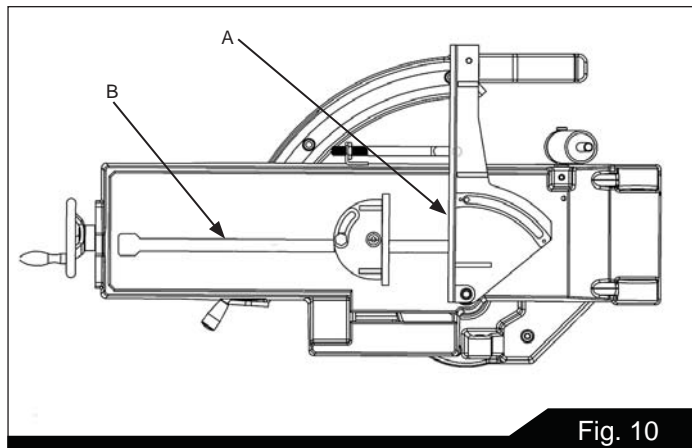

Fig. 10
The procedure for setting the vise for square cuts is identical to setting for angle cuts (above) except that a machinist's square is used to set the angle of the fixed vise jaw (A, Fig. 10). Align one side of the square with the side of the slot (B, Fig. 10) in the table.
1. Clamp the workpiece in the vise. Refer to Figures 10 and 11 for examples of workpieces in the vise. Be sure the blade is not in contact with the workpiece when the motor is started.